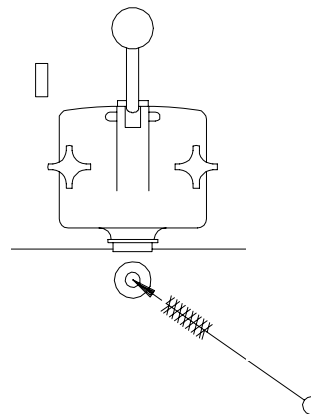

Figure 6-14 Brush inside of drain tube
6. Brush the inside of the drain tubes, as shown in figure 6-14.